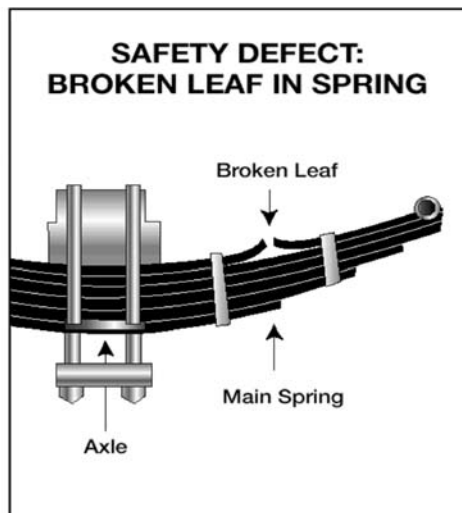

Figure 2.3
- Missing or broken leaves in any leaf spring (see Figure 2.3). Any defect could be dangerous. If any of the following conditions exist the vehicle will be placed “out of service”, and must be repaired: